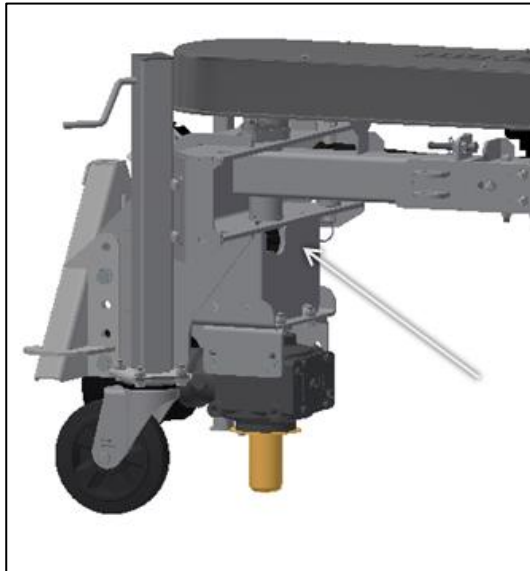

Fig. 16: Dismount cover
5. Remount the cover as shown in Fig. 16.